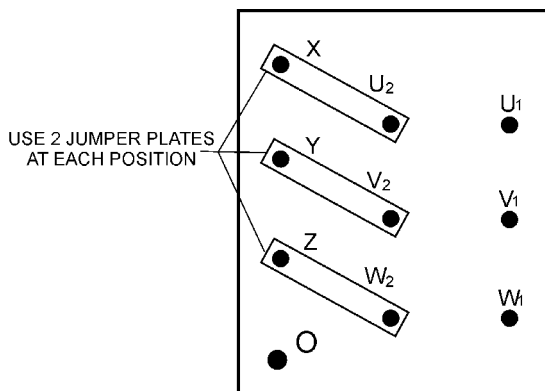

**Figure 22. UVWO Terminal Lugs 1Ø139V Connections**
3. Connect the load wires to the UVWO terminals as shown in Figure 22.